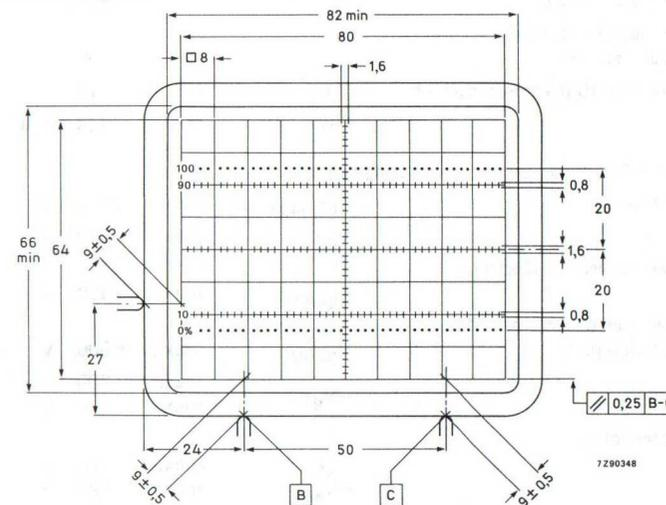

Fig. 4 Front view of tube with internal graticule, type 119.
The tube can be mounted in any position. It must not be supported by the socket and not by the base region alone. The reference points on adjoining edges of the faceplate (see Fig. 4) enable the tube to be mounted accurately in the front panel, thus providing optimum alignment of the internal graticule.
- As the frit seal is visible through the faceplate, and not necessarily aligned with the internal graticule, application of an external passe-partout with open area of max. 82 mm x 66 mm is recommended. The internal graticule is aligned with the faceplate by using the faceplate reference points (see Fig. 4).
- (1) Dimensions of faceplate only. The complete assembly of faceplate and cone (frit seal included) will pass through an opening of 101 mm x 85 mm.
- (2) The coil is fixed to the envelope with resin and adhesive tape.
- (3) The length of the connecting leads of the rotation coil is min. 350 mm.
- (4) Reference points on faceplate for graticule alignment (see Fig. 4).
The internal graticule is aligned with the faceplate by using the faceplate reference points A1, A2 and A3, see Fig. 4. See also note 1.